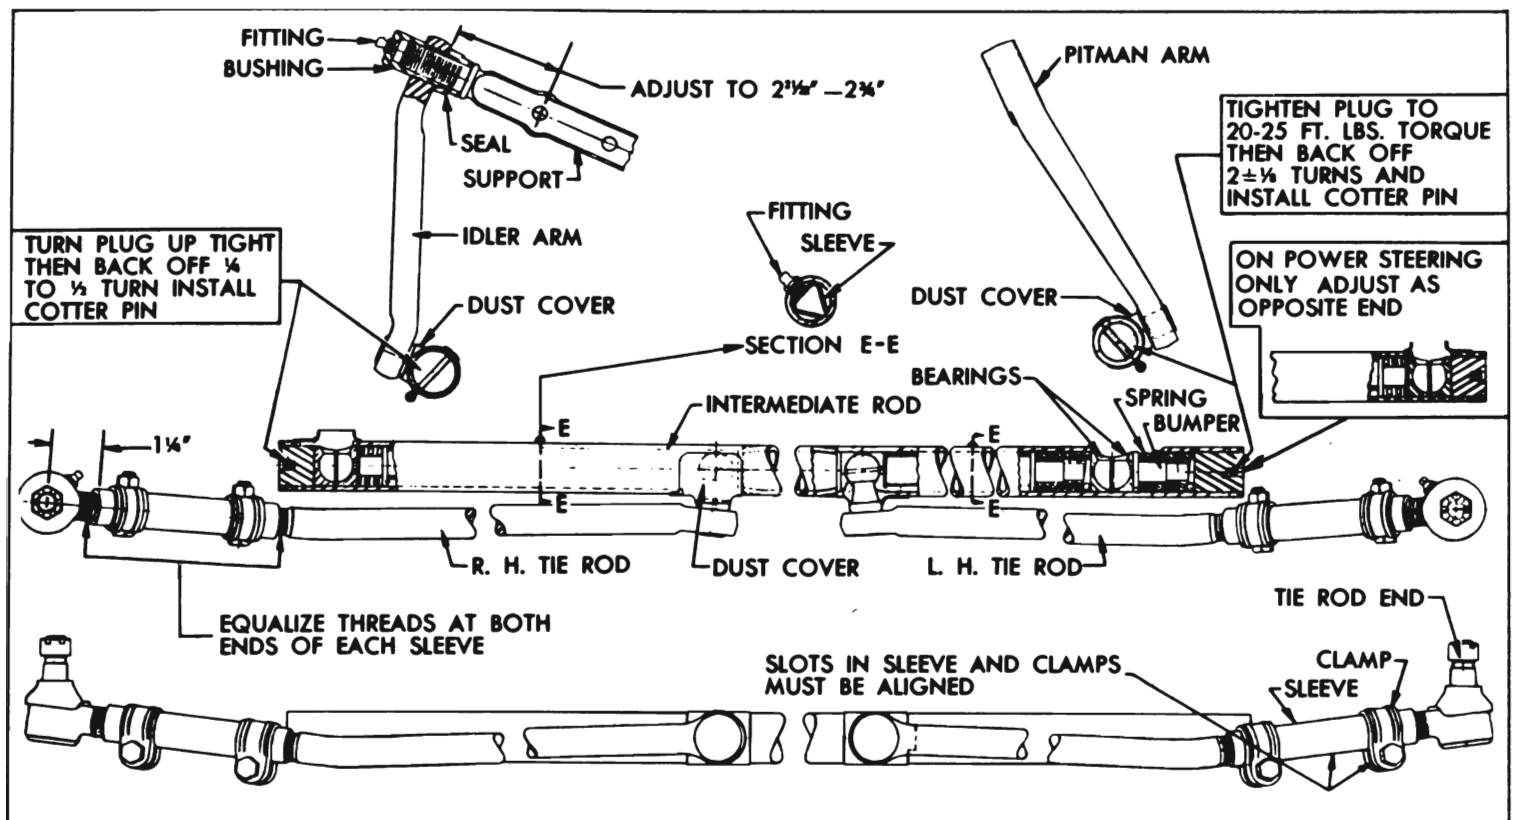

Figure 8-5—Steering Linkage
Intermediate Rod Plug Adjustments.....	See fig. 8-5
The Parallelogram type steering linkage is used to connect both front wheels to the steering gear pitman arm. As shown in figure 8-5, the right and left tie rods are connected to a tubular intermediate rod. The left end of the intermediate rod is supported by the pitman
Each ball stud riveted to the tie rods, pitman and idler arms seats between pairs of ball socket type bearings contained in the intermediate rod. The bearings are held in firm contact with the ball studs through pressure applied by heavy coil springs located at the pitman and idler arm stud bearings. Steel spacers transmit this spring pressure to the tie rod ball stud bearings. See figure 8-5.
Flanged steel bumpers extending through the springs act as spring guides, permit a restricted movement of ball studs and bearings as the springs absorb road shock, and prevent the bearings from spreading and releasing the ball studs in the event of spring breakage. The spring tension and clearances at ends of bumpers are adjusted by the threaded end plugs. See figure 8-5.
The tie rod end, which connects each tie rod to a steering arm, is a spring-loaded ball stud and socket unit assembly. A rubber dust seal fits over the stud where it emerges from the socket, to provide protection against entrance of dirt and water. The tie rods are connected to the tie rod ends by internally threaded sleeves which provide for toe-in adjustment. The sleeves are slotted and provided with clamps at each end to lock them in place. See figure 8-5.
1. Disconnect intermediate rod from pitman arm by unscrewing end plug until bearings will release the ball stud. See figure 8-5. Check tightness of pitman arm nut with 18" wrench.
The intermediate rod must be maintained in a level position to insure good steering action. This requires proper location of the idler arm on its support so that the idler arm ball stud will be level with the pitman arm ball stud. The support must be threaded into the idler arm bushing until the distance from the center of support lower bolt hole to the nearest face of idler arm is 2 7/8" to 2 3/32", as shown in figure 8-5. After any adjustment of idler arm on its support the front wheels should be checked to insure proper toe-in.